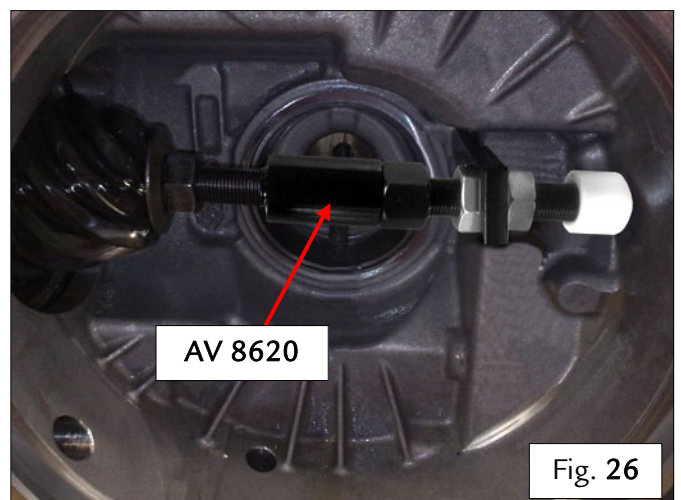

Fig. 26
- Using the extractor tool 95978620 (AV 8620), separate the differential housing from the plate – Fig. 26.